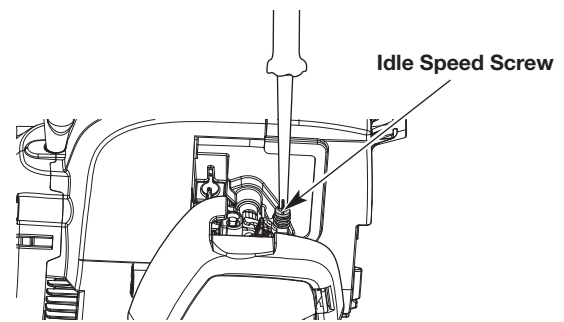

Fig. 20
2. Release the throttle control and let the engine idle. If the engine stops, use a small Phillips screwdriver to turn the idle speed screw clockwise, 1/8 of a turn at a time (as needed) until the engine idles smoothly (Fig. 20).
3. If the engine is idling too quickly, turn the idle speed screw counterclockwise, 1/8 of a turn at a time (as needed) to reduce the idle speed (Fig. 20).